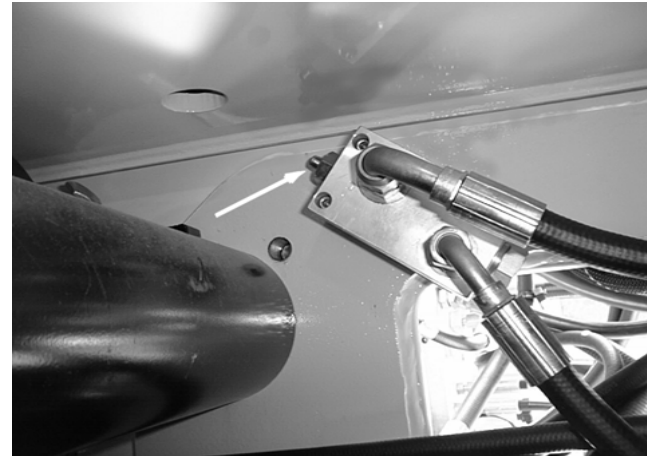

Figure 2-7. Tower Boom Vertical Limit Switch
- a. Place machine on level ground with the tower boom assembly in the stowed position. Identify the tower boom vertical limit switch adjacent to the tower lift cylinder at the bottom end (rear) of the tower base boom. Open the left side hood and perform a visual check that the plunger on the tower boom vertical limit switch is fully extended. The plunger is shown fully extended in Figure 2-7.